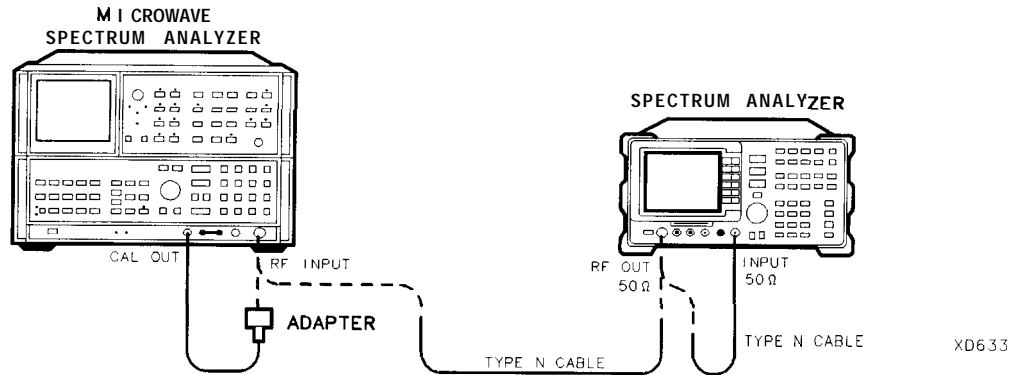

Figure 2-94. Harmonic Spurious Outputs **Test** Setup
2. Connect the Type N cable between the RF OUT 50  $\Omega$  and INPUT 50  $\Omega$  connectors on the spectrum analyzer. See Figure 2-94.
4. Connect the Type N cable from the tracking generator output to the microwave spectrum analyzer RF INPUT as shown in Figure 2-94.